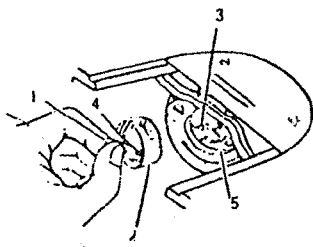
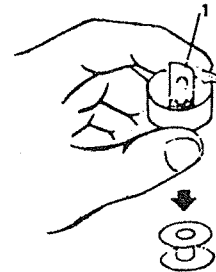

Fig. 8
Fig. 9
1) With left hand beneath machine bed, open bobbin case latch lever 1 by forefinger and hold it together with thumb (see Fig. 8), pull out bobbin case 2. Release the latch lever and the empty bobbin will drop out of the bobbin case (see Fig. 9). Place wound bobbin 1 into bobbin case 2 (see Fig. 10), let the thread tip be out of the case. Then, set the thread tip into the slot on bobbin case 2 and under the tension spring 3, in the center of the spring notch (see Fig. 11). Draw about 100mm of thread out of the bobbin case with which to start sewing.
2) While holding bobbin case latch lever 1 with forefinger and thumb (see Fig. 8) to make the latch catch the wound bobbin, fully press in bobbin case 2 onto center stud 3 of shuttle 5, turn the balance wheel to make sure that bobbin case latch 4 is locked on the groove of center stud 3.